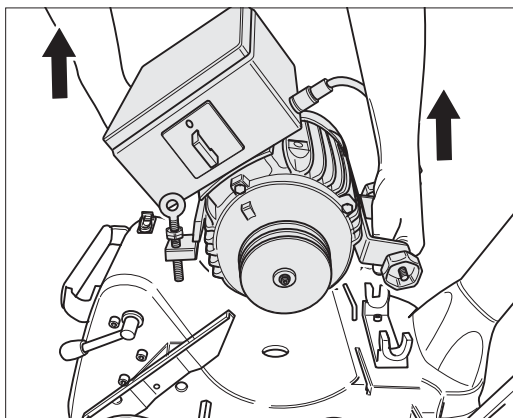

Fig. 24 Lift the motor out of the housing.
- 7 Lift the motor out of the machine and secure it during transport against slipping and damage (Fig. 24).